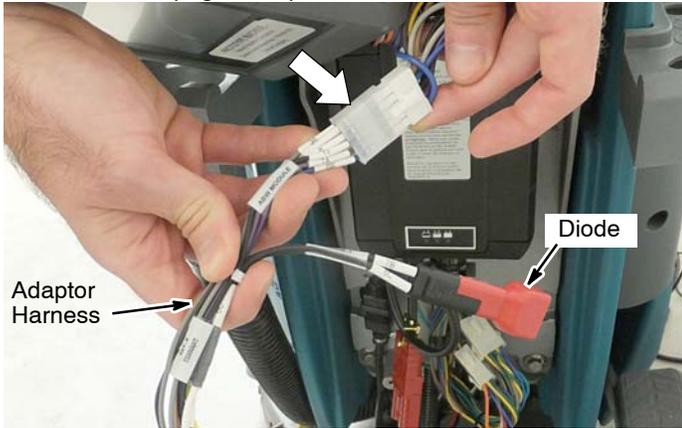

Fig. 17
4. Plug the adaptor harness into the routed connector. Plug the diode, supplied with kit, into adaptor harness as shown (Figure 17)